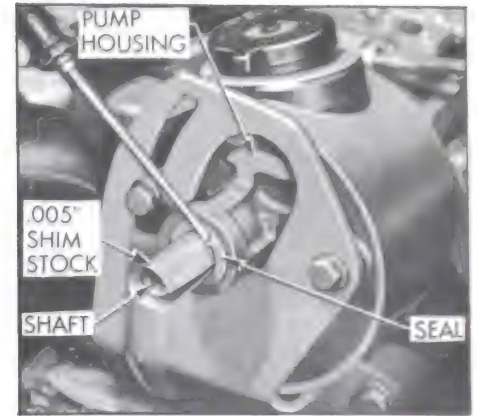

Figure 8-65—Removing Oil Pump Shaft Seal
6. Insert a piece of .005" shim stock (approximately 2-1/2" long) around shaft and push it past seal until it bottoms in pump housing. See Figure 8-65.
prying out. See Figure 8-65. Extreme care must be used to prevent damage to shaft and pump housing.